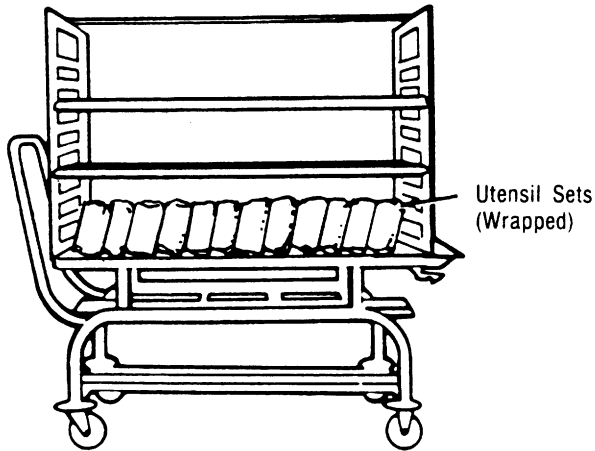

Figure 18. PLACE WRAPPED UTENSIL SETS ON EDGE, TIPPED SLIGHTLY FORWARD.
a. Place wrapped utensil sets on edge, top side tipped slightly forward, so that air will not be trapped and condensate (water) can drain out of sets (Figure 18).